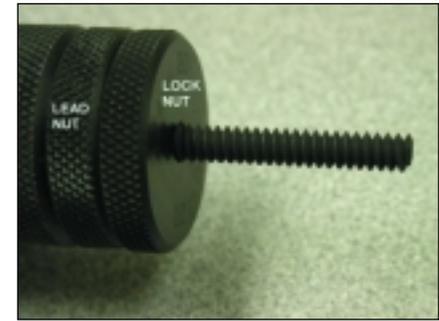

Figure 6
- Use an electrode holding device that holds the electrode by the threads for easy redressing without losing the lead. (See Fig. 6)